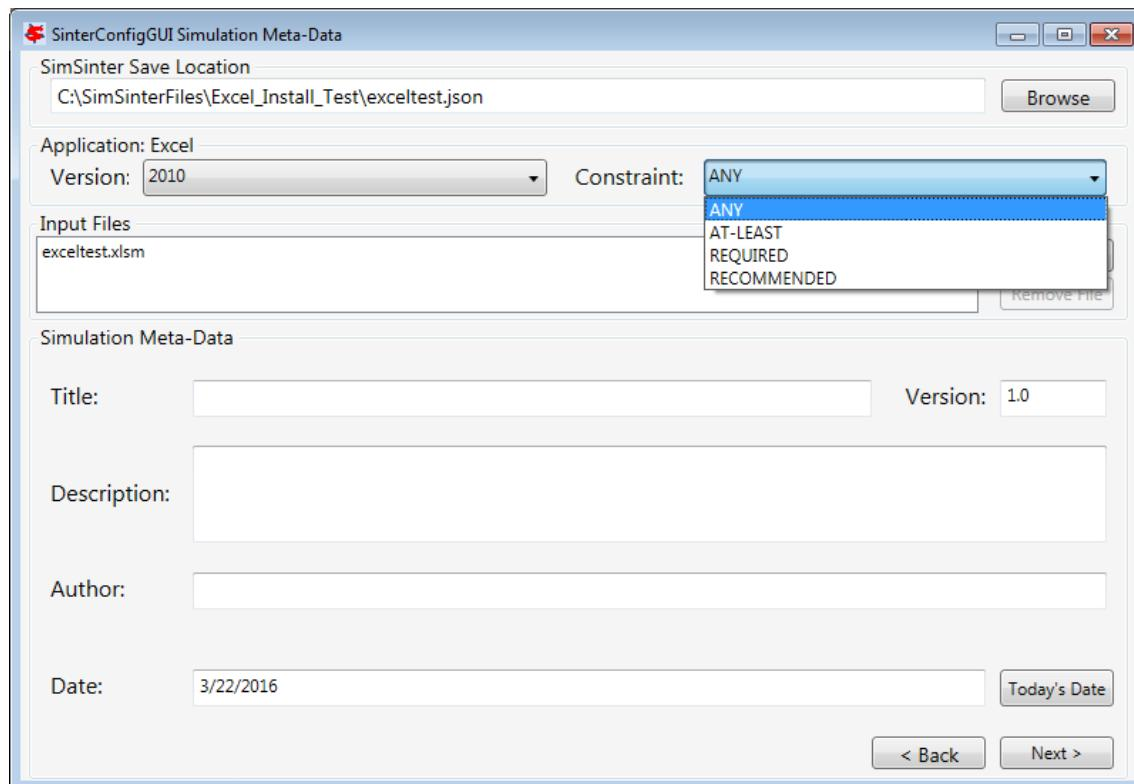

Figure 30: Set Constraints on the Excel Version
1. Open the “SinterConfigGUI” from the “Start” menu, as shown in Figure 30.